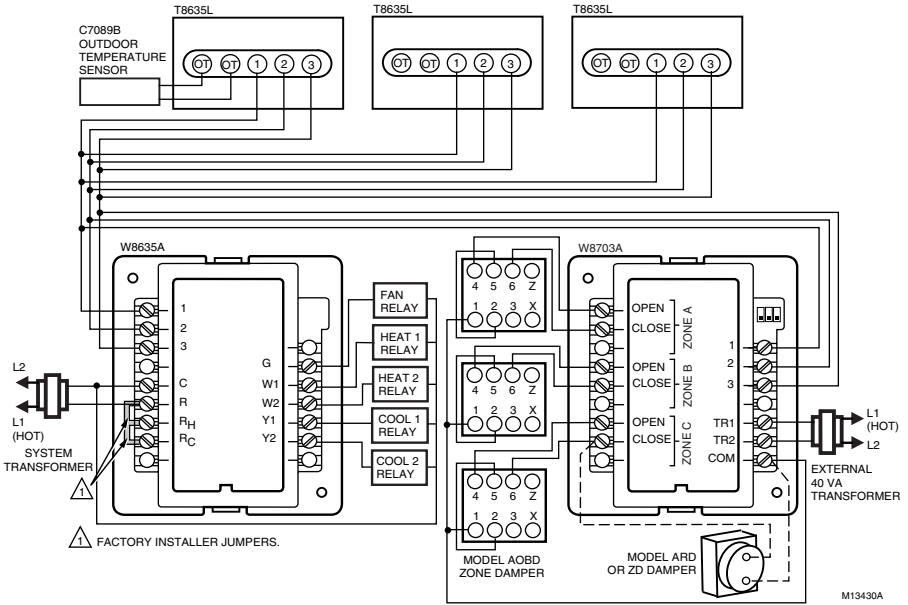

Fig. 4. T8635L/ W8703A/ W8635A wiring diagram.
- See Fig. 4 to wire the T8635L, W8635A and W8703A in forced air systems.